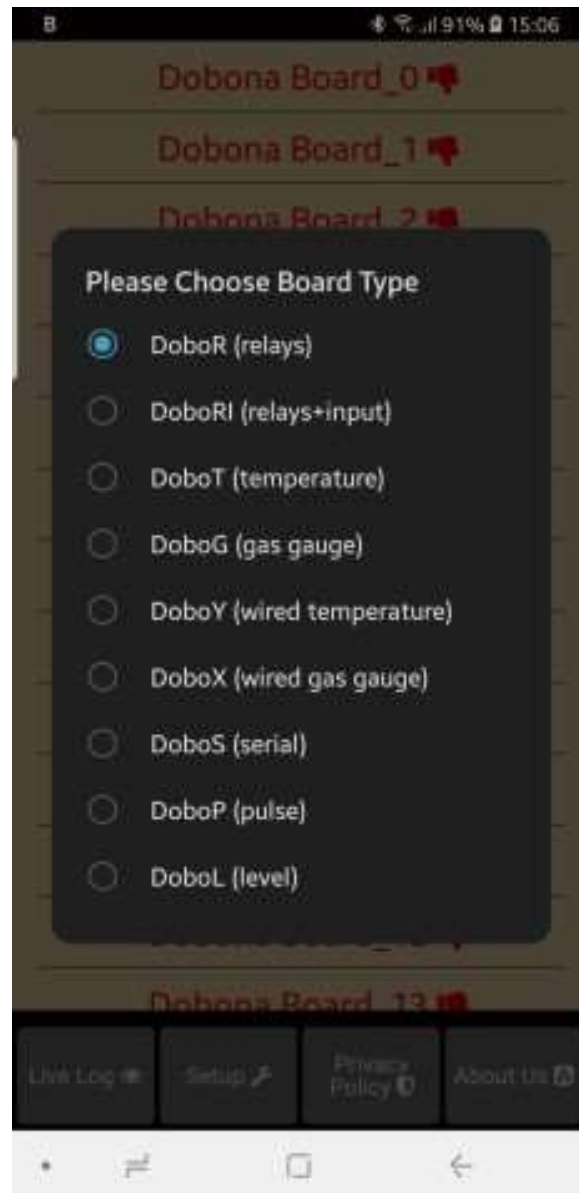

Fig 3.
5. In order to setup a board, the user should press any of the red lines. Supposing he presses on the first line (Dobona Board#0), after which he is presented with a popup screen to choose the board type (Fig.3). Since we are interested in DoboS board only, the user should press the DoboS (serial).